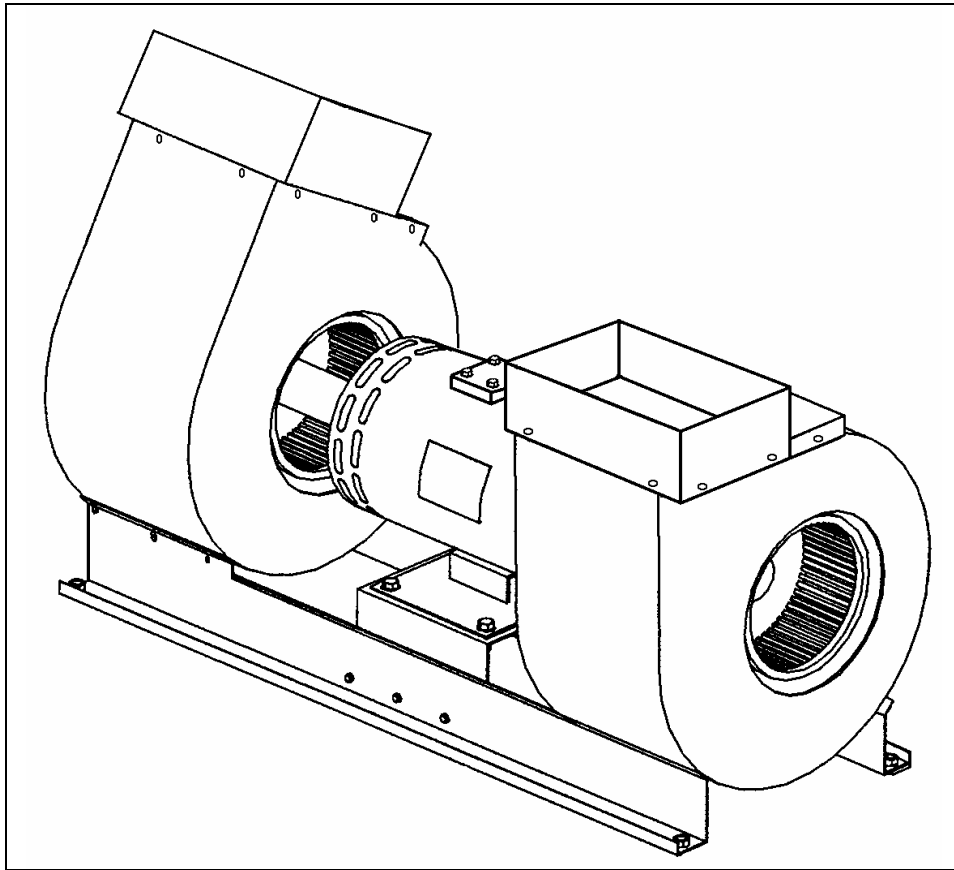

FIGURE 1: EVAPORATOR MOTOR ASSEMBLY
5. From under the vehicle, remove the eight bolts retaining the evaporator fan motor support. Remove the complete unit from the evaporator compartment (Fig. 1).